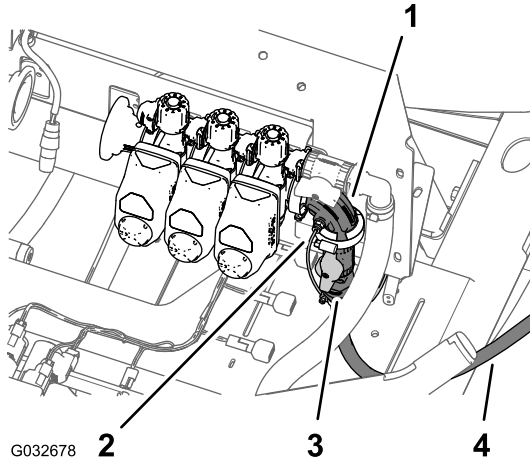
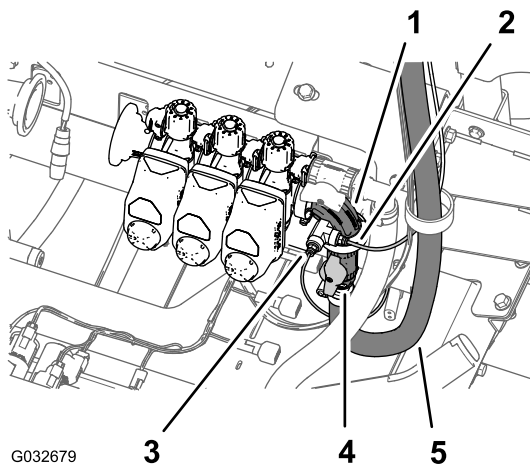

Figure 26
Figure 27
1. Press in the collar for the tube coupler in the 90° elbow of the right boom-section valve (Figure 26 or Figure 27).
2. Pull the pressure-sense tube for the dash gauge out of the tube coupler (Figure 26 or Figure 27).